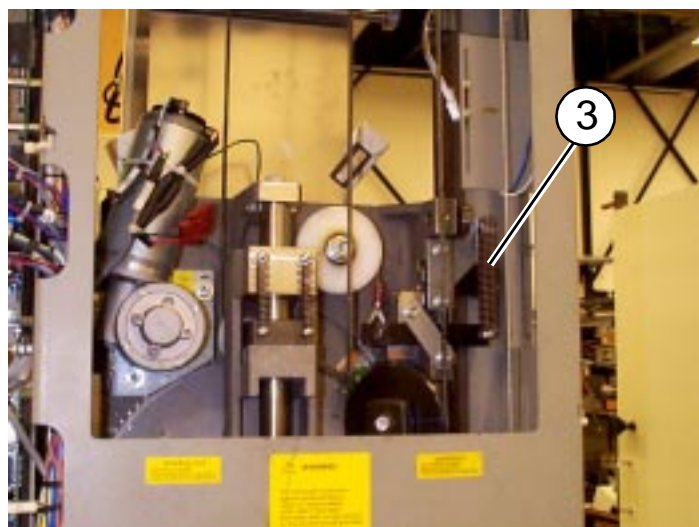
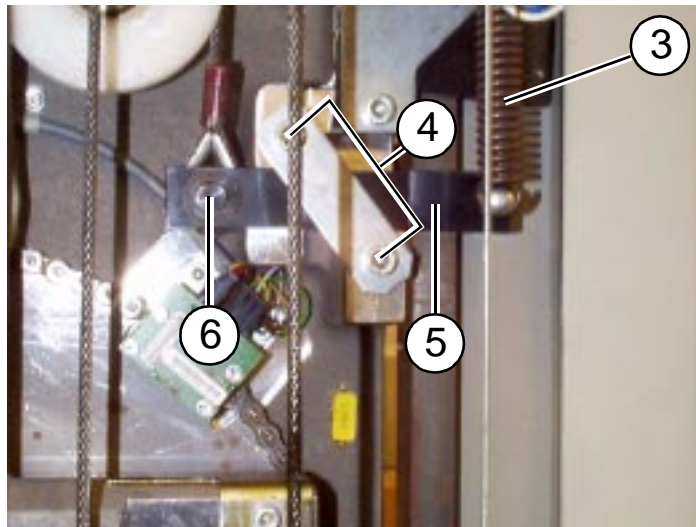

Fig. 3
Fig. 4
6. Remove the traction spring (see Fig. 3 and Fig. 4, pos.3).
7. Remove the metal plate (see Fig. 4, pos.4).
8. Carefully remove the safety catch for the lifting carriage (see Fig. 4, pos.5).
9. Remove the clamp ring (see Fig. 4, pos.6).
10. Remove the pin. This frees the eye loop of the steel rope (see Fig. 4, pos.6).